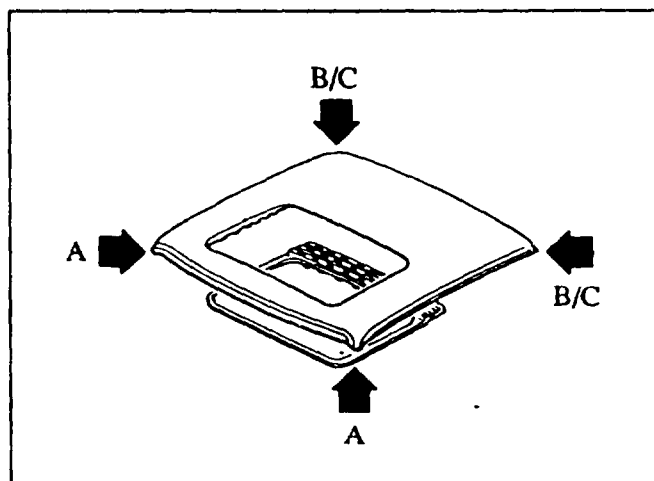

Figure 28: Locating Source of Top Water Leaks
4. Run water over the sunroof and note in which area the water enters the vehicle. Refer to the appropriate location's repair procedure. **Figure 28.**